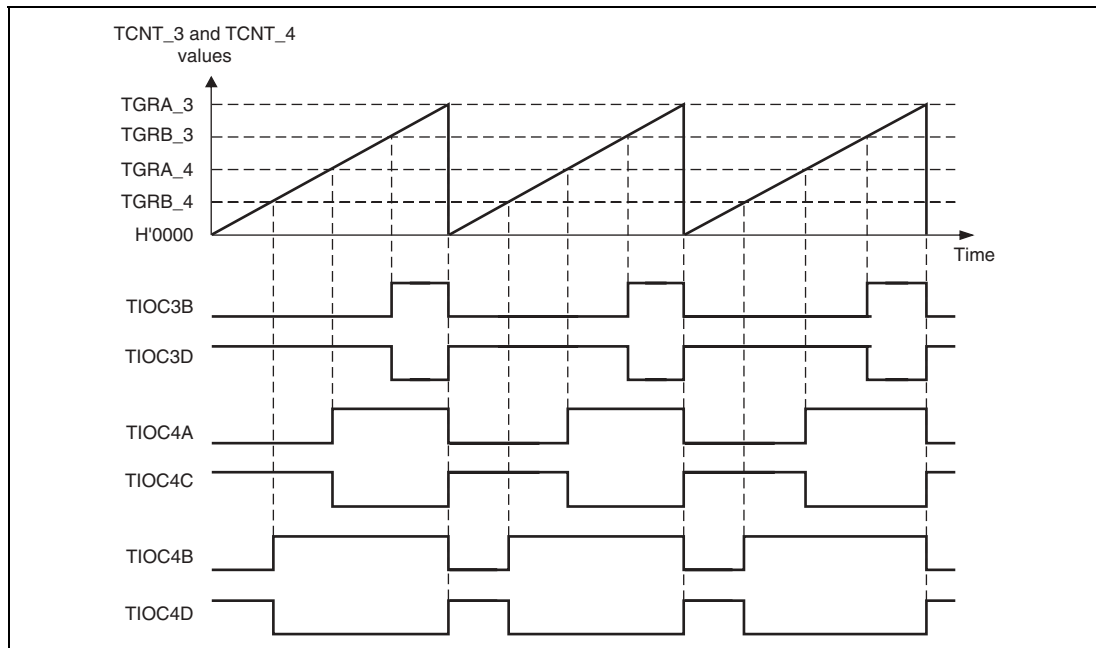

**Figure 11.31 Reset-Synchronized PWM Mode Operation Example
**Reset-Synchronized PWM Mode Operation:** Figure 11.31 shows an example of operation in the reset-synchronized PWM mode. TCNT\_3 and TCNT\_4 operate as upcounters. The counter is cleared when a TCNT\_3 and TGRA\_3 compare-match occurs, and then begins incrementing from H'0000. The PWM output pin output toggles with each occurrence of a TGRB\_3, TGRA\_4, TGRB\_4 compare-match, and upon counter clears.